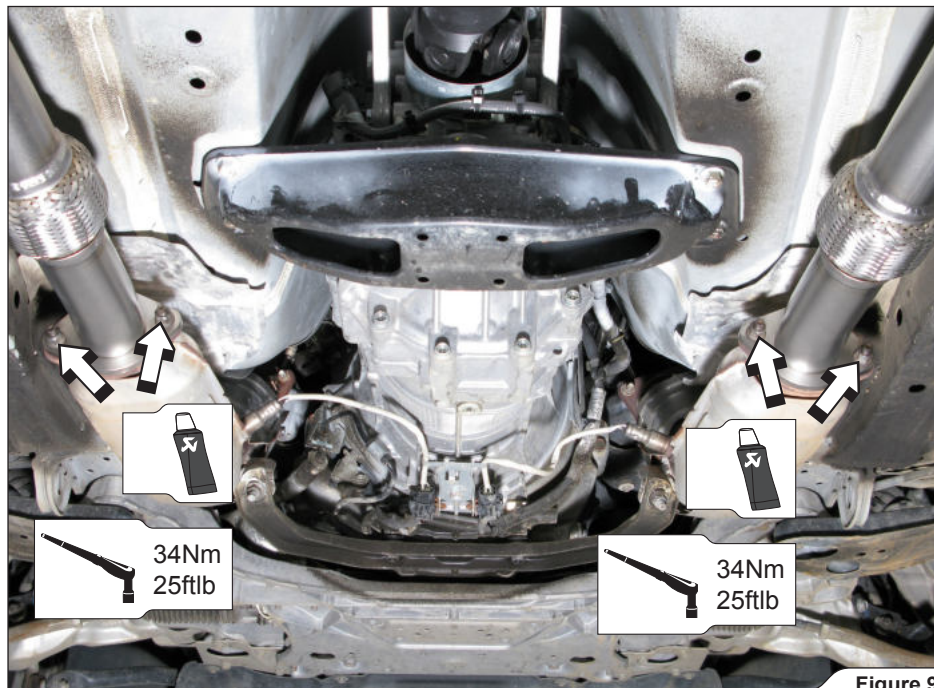

Figure 9
3. **For Evolution only:** attach the front pipes onto the stock header pipes using stock nuts (Figure 9).